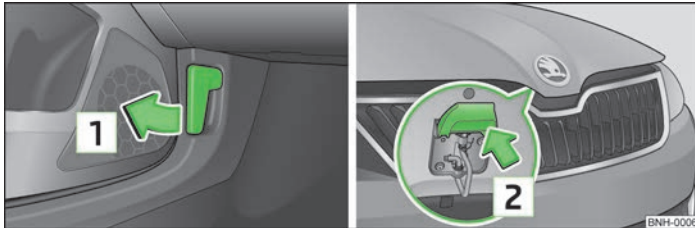

Fig. 96 Bonnet/radiator grille release lever: Release lever
- Pull the release lever under the dash panel » Fig. 96 in the direction of the arrow.
- Press the release lever in the direction of the arrow » Fig. 96 and the bonnet is unlocked.